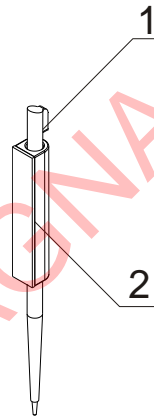

Fig.1
The stylus (pos.1, fig.1) is provided for comfortable and safe operation of the touch-screen of the IFS7002 fire control panel and IFS7002R.
The self-adhesive pad of the carrier (pos.2, fig.1) allows for easy fixation at the proper place.